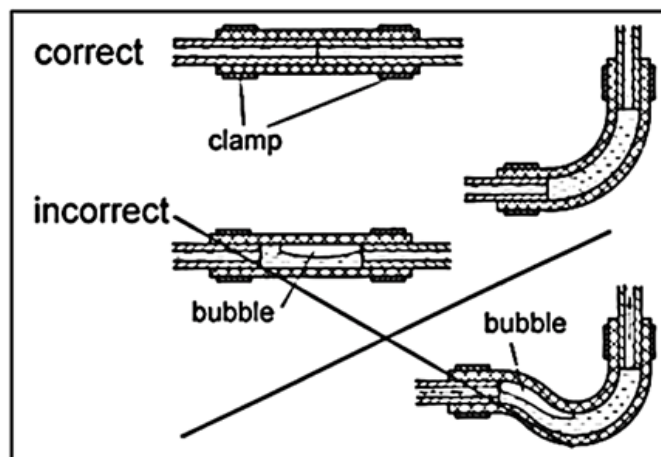

Fig. 407: Fuel Line Connection
- Secure the fuel lines every 12" and keep away from hot exhaust and moving parts such as the drive shaft. Use the supplied hose clamps to secure all fuel line connections. (see figure 407)